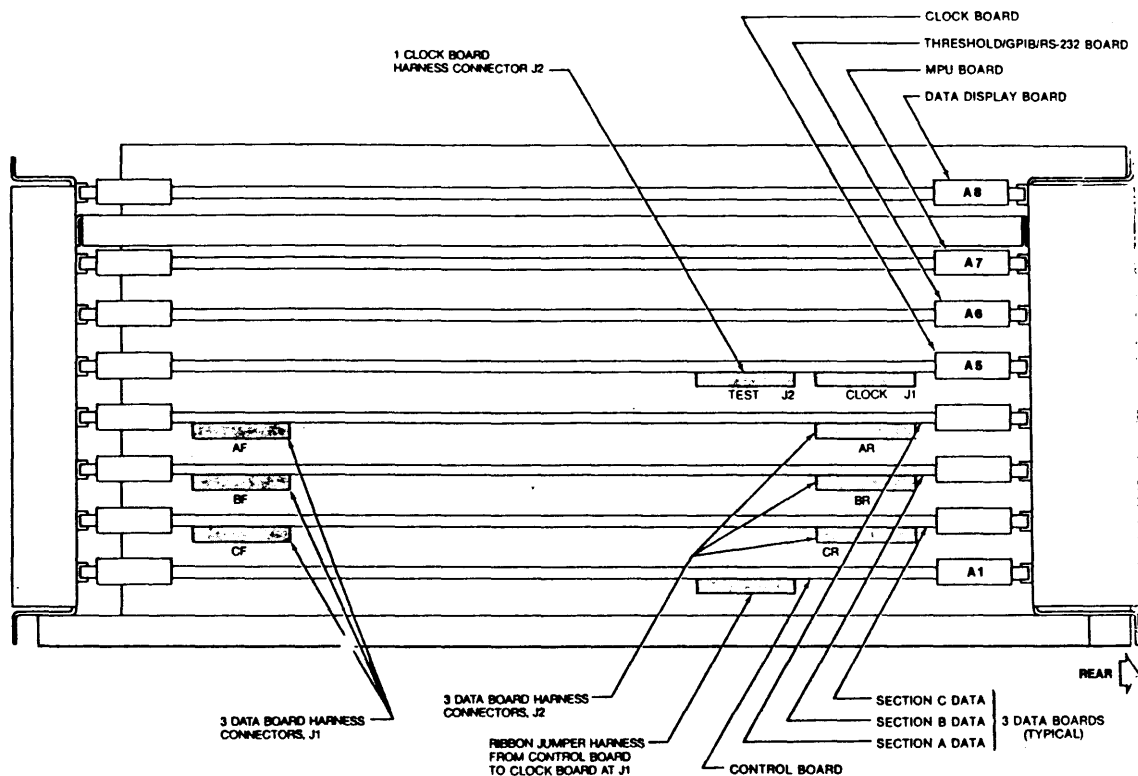

Figure 6-1. K450 Card Cage Arrangement, Top View
2. Remove the two screws that secure the card retainer bar to the top of the card cage and lift it from the chassis. The card cage arrangement is shown in Figure 6-1.
4. Position the Expansion Option Data Board with the solder side toward the power supply of the unit. Carefully insert the Data Board into the designated card slot, A2 for Section C Inputs or A3 for Section B Inputs (refer to Figure 6-1). Ensure the Data Board is seated firmly in the motherboard sockets.